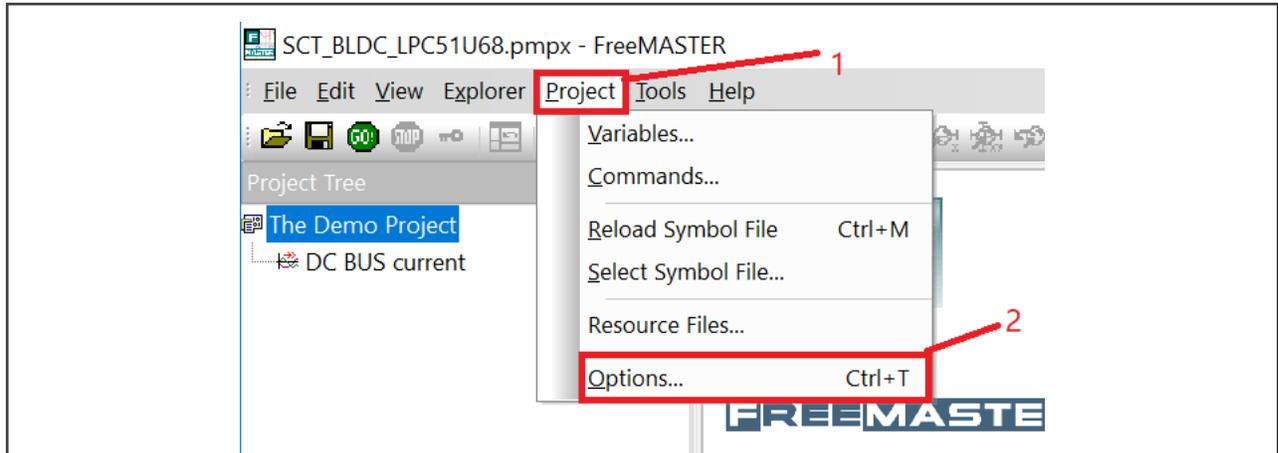
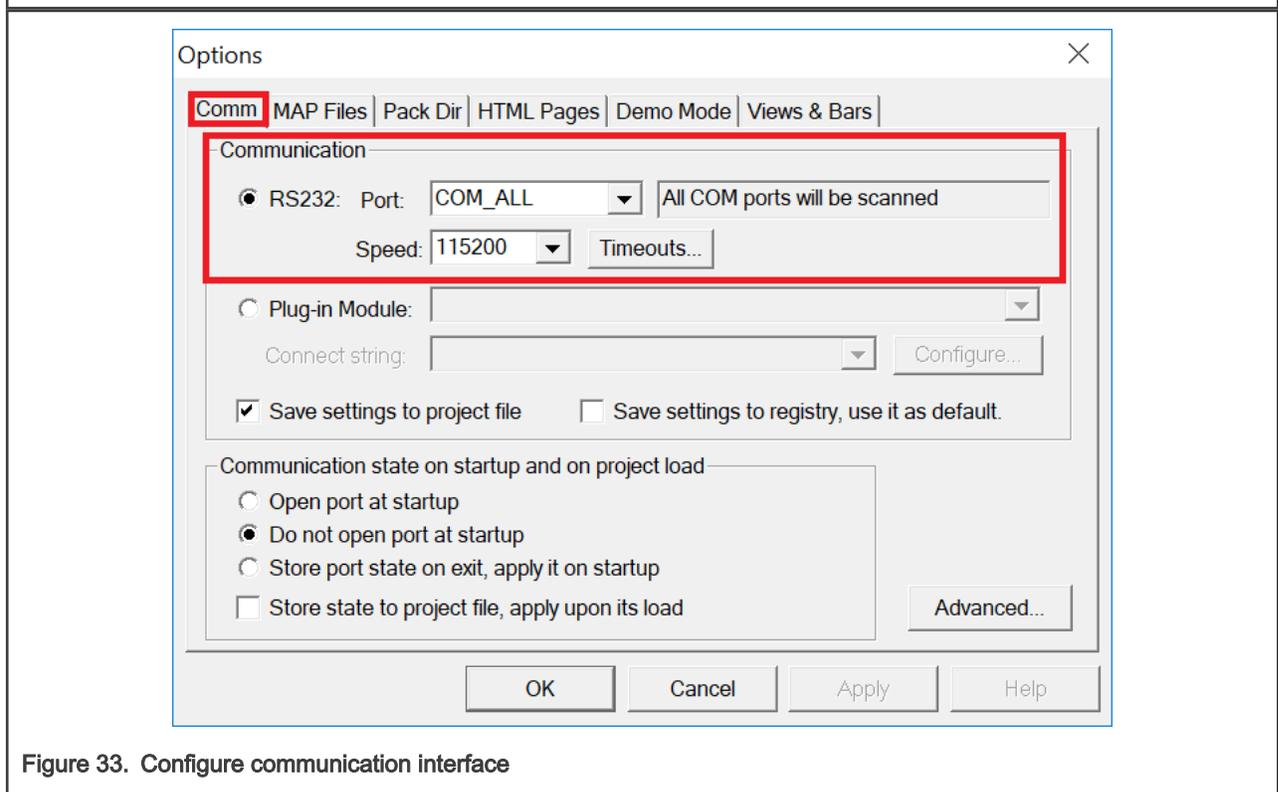

Figure 32. Enter project configuration interface
Figure 33. Configure communication interface
6. Click **Project** -> **Option**, as shown in Figure 32. Figure 33 shows the configure communication interface.